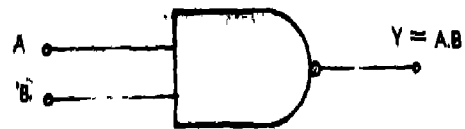

Fig. 23.2
1. Make the connection as shown in Fig. 23.2.